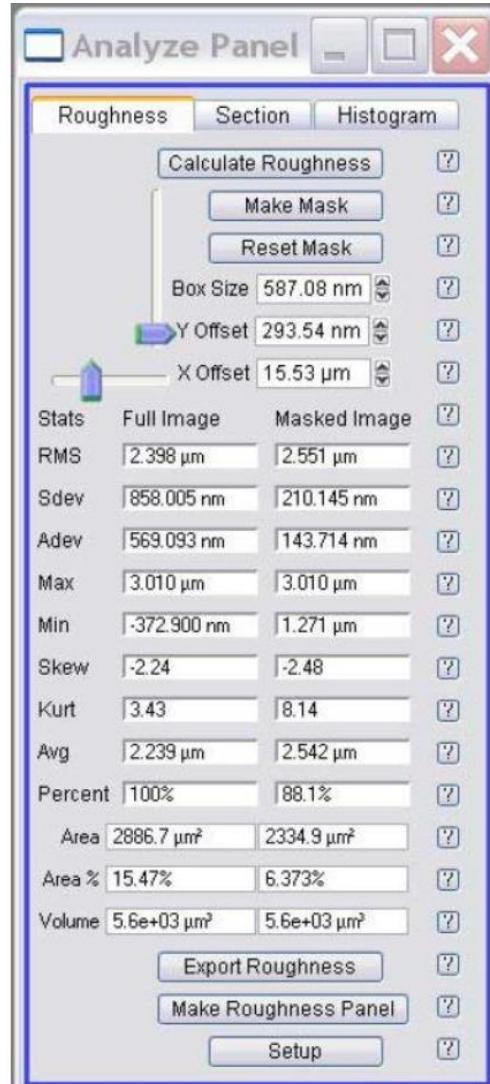

Figure 13. Roughness tab
2. Open the **Roughness** tab on the Analyze Panel (Figure 13).